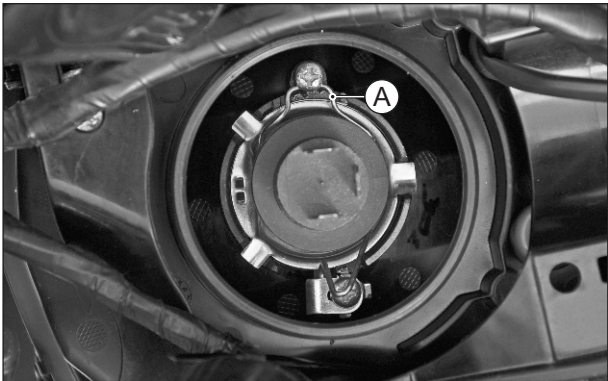

Fig. 5.49
- Take out head lamp bulb by snapping out the clip (A) and replace with a new one. (Fig 5.49)